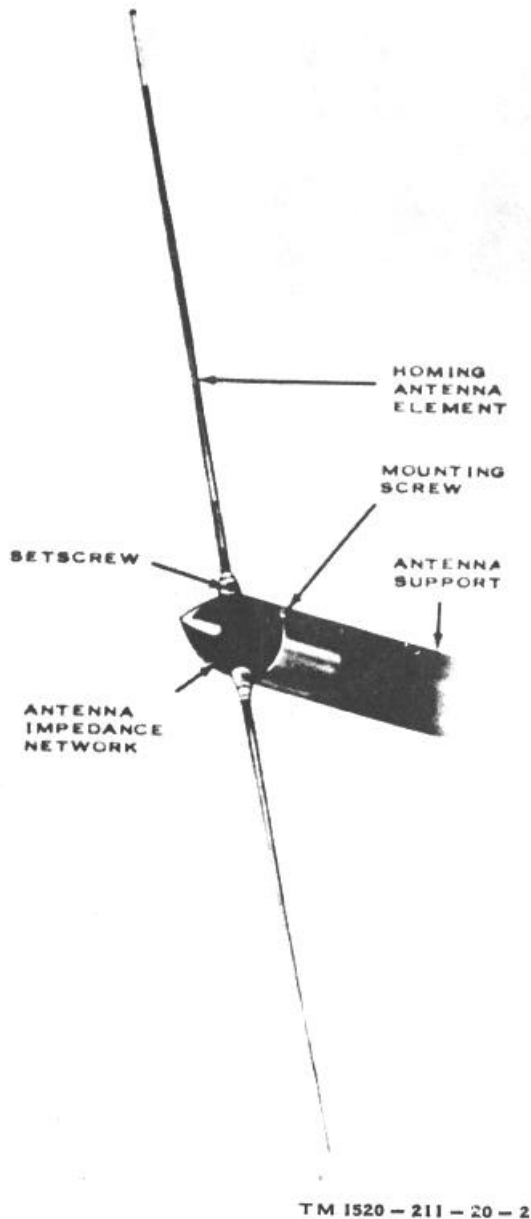

Figure 2-17. Antenna Elements AT-624(*)/AR with CU-459/AR
- (1) Loosen the setscrew (fig. 2-17) that secures each homing antenna element.
- (2) Unscrew the homing antenna elements from the antenna adapter.
- (3) Remove the three mounting screws that secure the antenna adapter to the adapter housing.
- (4) Lift the antenna adapter out of the adapter housing, and disconnect the homing antenna cable from the antenna adapter.
(fig. 2-17)